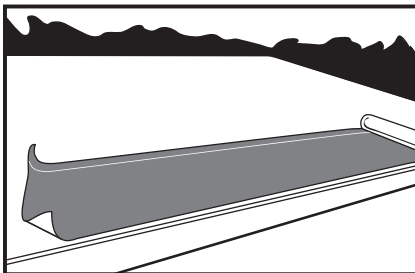

Figure 2 Figura 2
(C) Unroll the underlayment and cut into 10 foot to 12 foot lengths. Allow to relax for 3 to 5 minutes before installing. (See Figure 2)